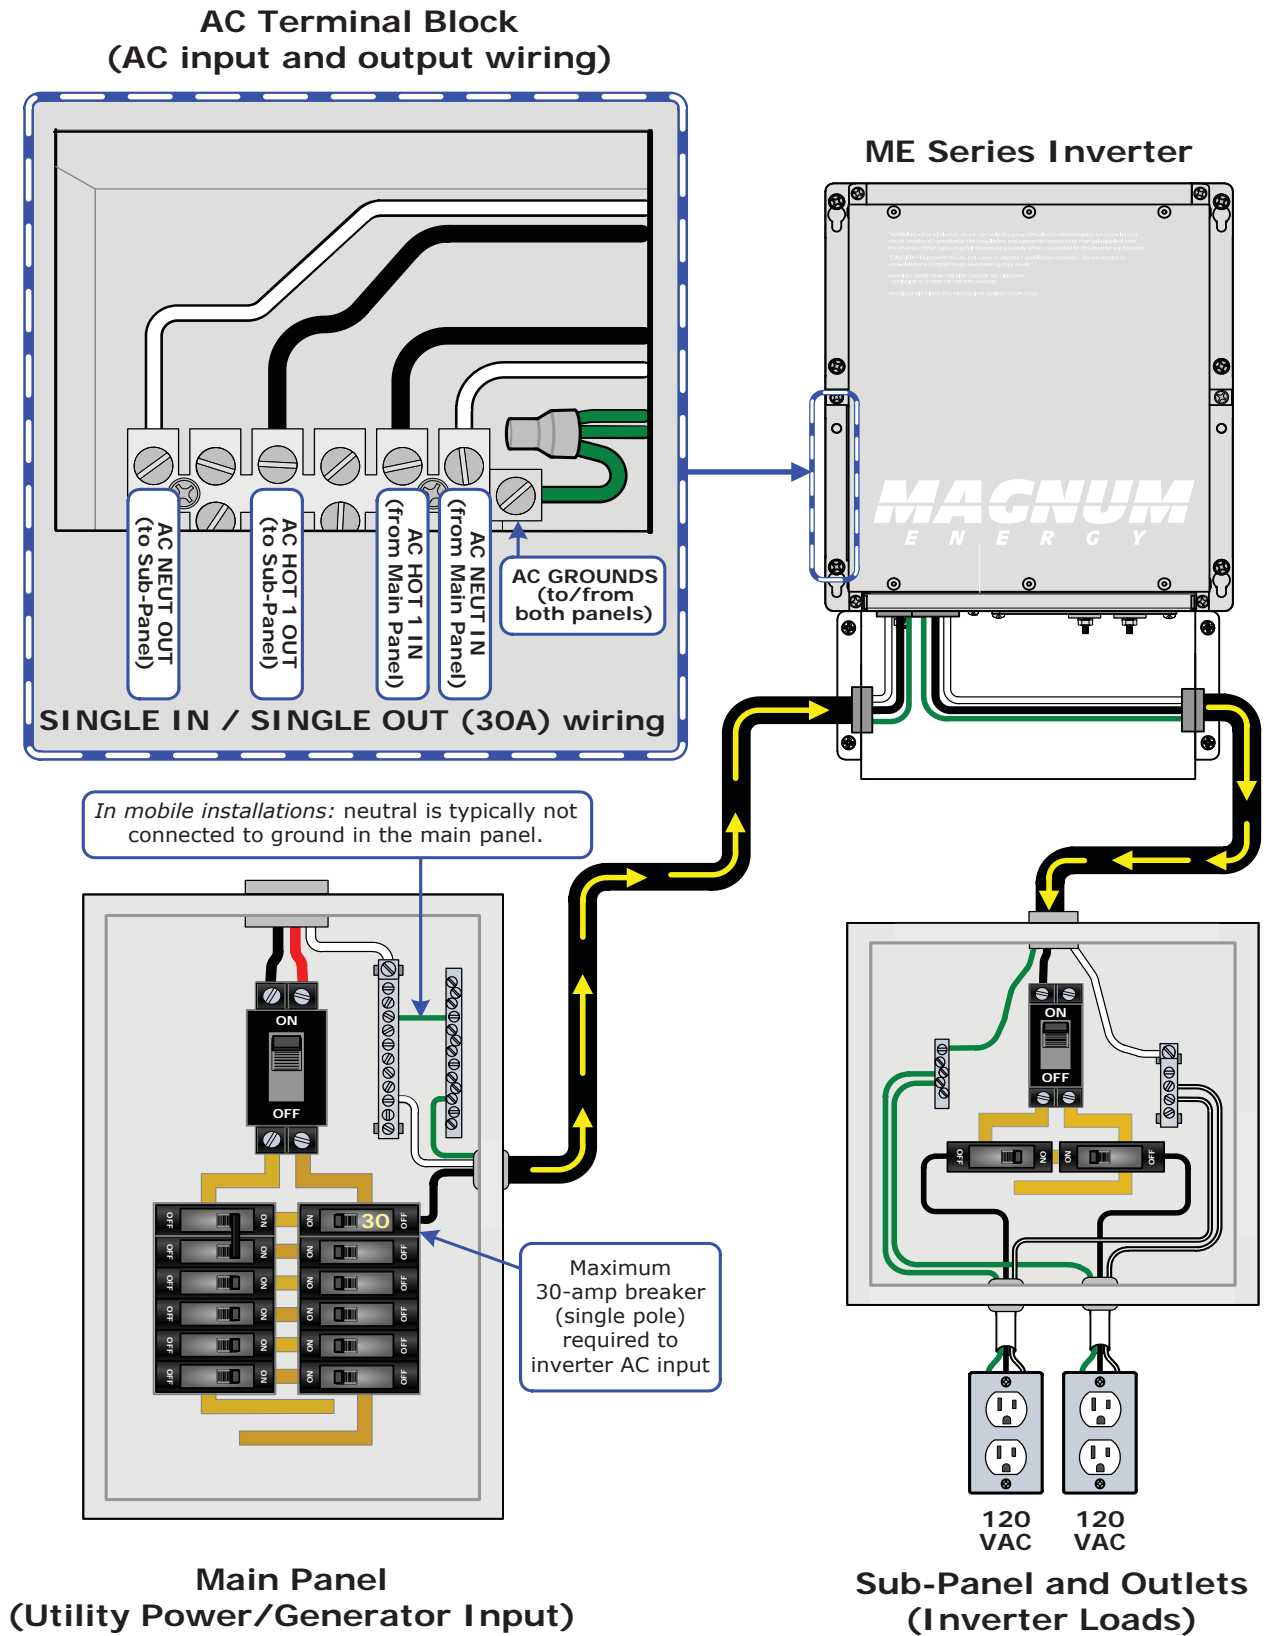
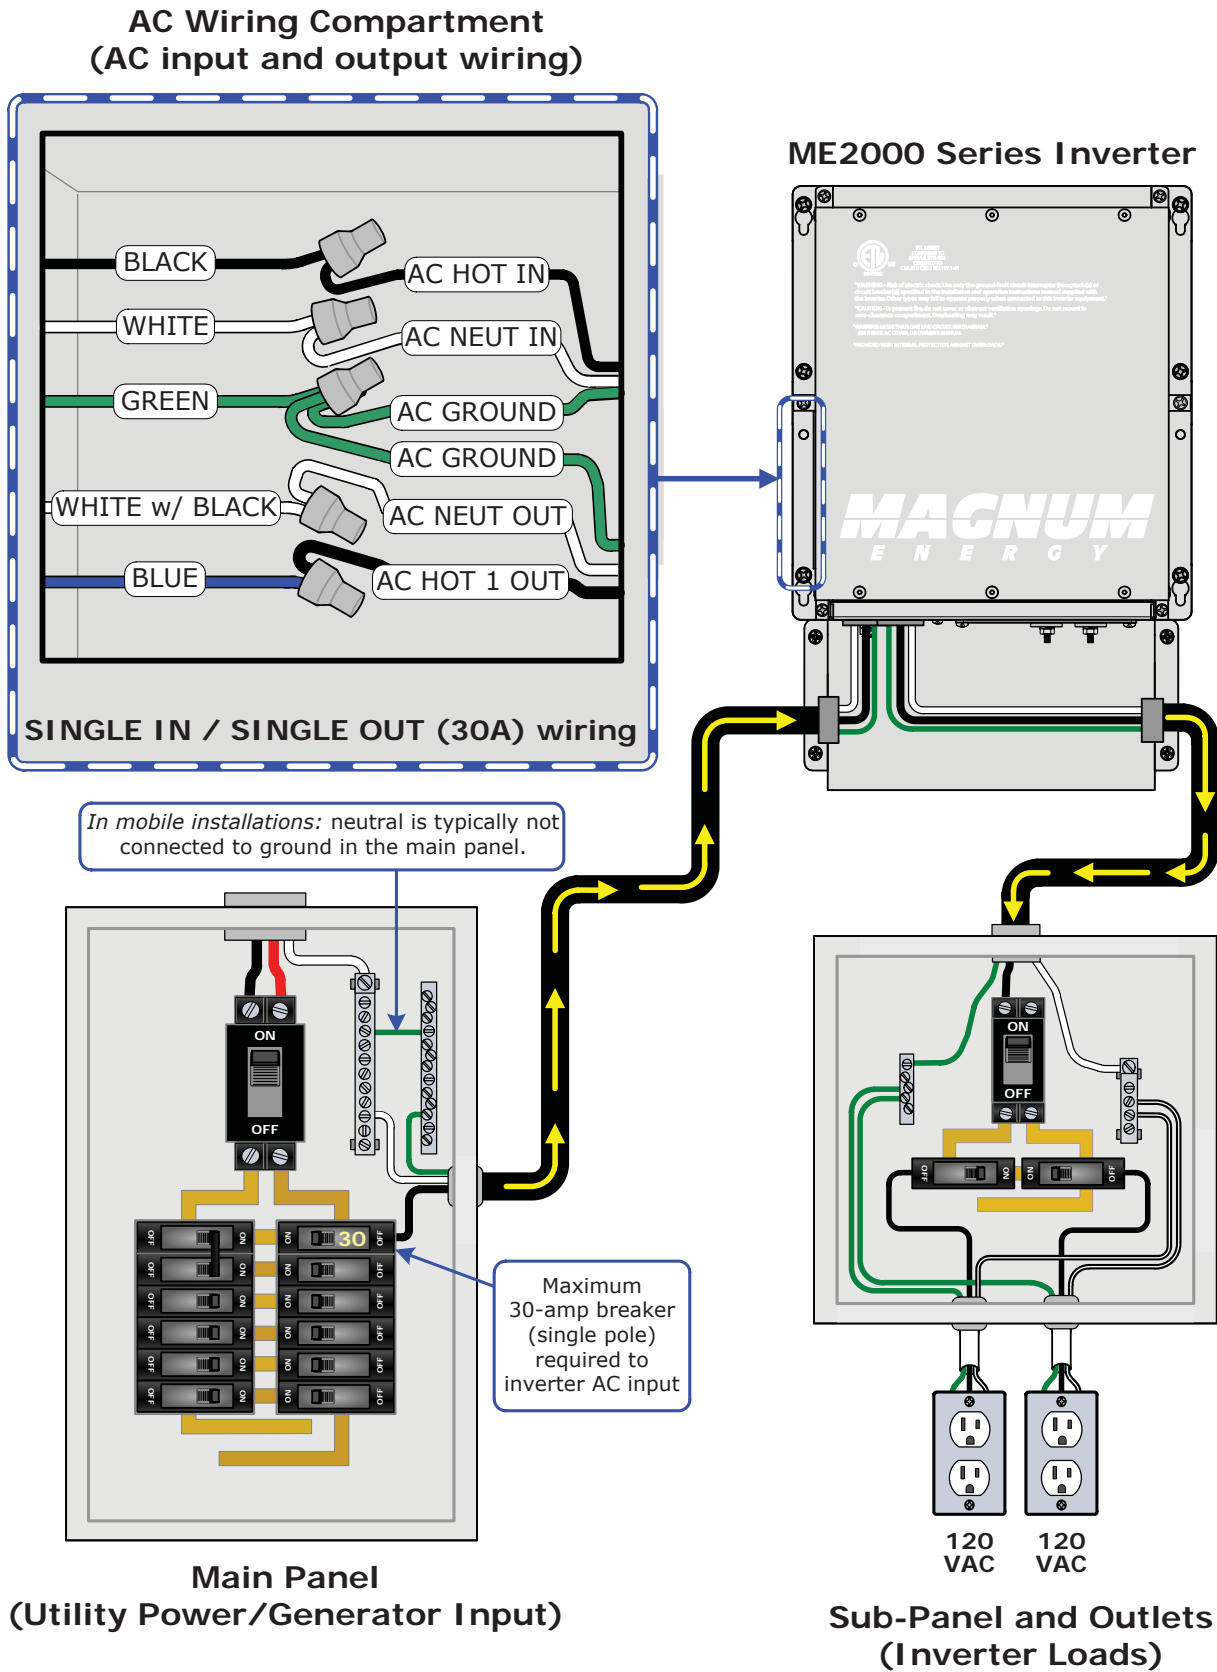

Figure 2-9, AC Wiring for Single In - Single Out (30A) Configurations
Figure 2-14, AC Wiring for ME2000 Models
**Info:** Depending on the AC wiring configuration, you may need to connect a wire to the HOT 2 IN terminal, refer to your configuration drawing (Figure 2-9 to 2-13).
**Info:** Depending on the AC wiring configuration, you may need to connect a wire to the HOT 2 OUT terminal, refer to your configuration drawing (Figure 2-9 to 2-13).
The following table provides the different wiring configurations for installing and connecting the AC conductors into and out of the ME2012, ME2512, and ME3112 model inverters (see Figures 2-9 to 2-13 for installation diagrams showing these configurations). Refer to Table 2-4 (and Figures 2-14 & 2-15) for the ME2000 models.
The following table provides the different wiring configurations for installing and connecting the AC conductors into and out of ME2000 model inverters (see Figures 2-14 and 2-15 for installation diagrams showing these configurations).